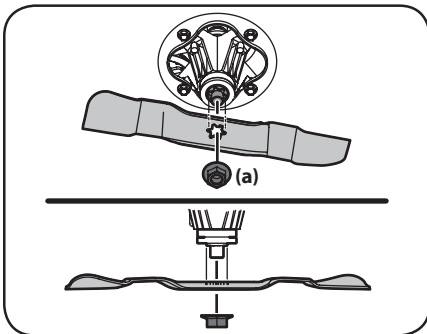

Figure 2
4. Remove the hex flange nuts (a) that secures the blades to the spindle assembly. See Figure 2.
2. Replace the hex flange nuts (a) and tighten to torque: 70 ft-lb (min.), 90 ft-lb (max.). See Figure 2.